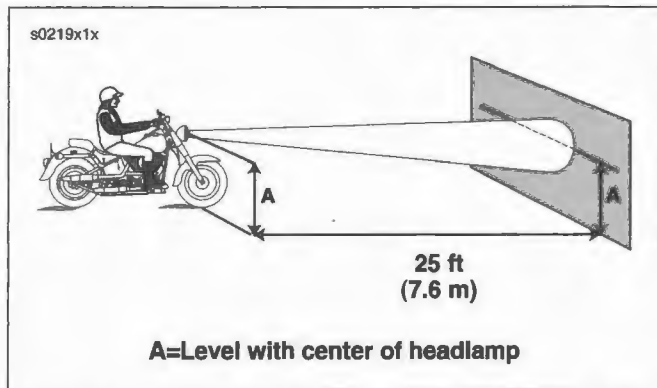

Figure 1-57. Headlamp Alignment: FLSTC/FLSTF/FLSTN (Domestic Models)
- b. See Figure 1-57. For FLSTC, FLSTF and FLSTN vehicles, draw a horizontal line level with the center of the headlamp.